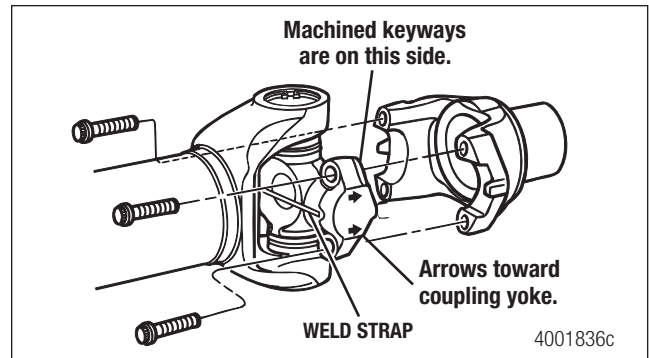

Figure 5.62
1. Before you install the capscrews, check that the universal joint is fully seated in the end yoke. The arrows on the wing bushing should point toward the coupling yoke. Figure 5.62.